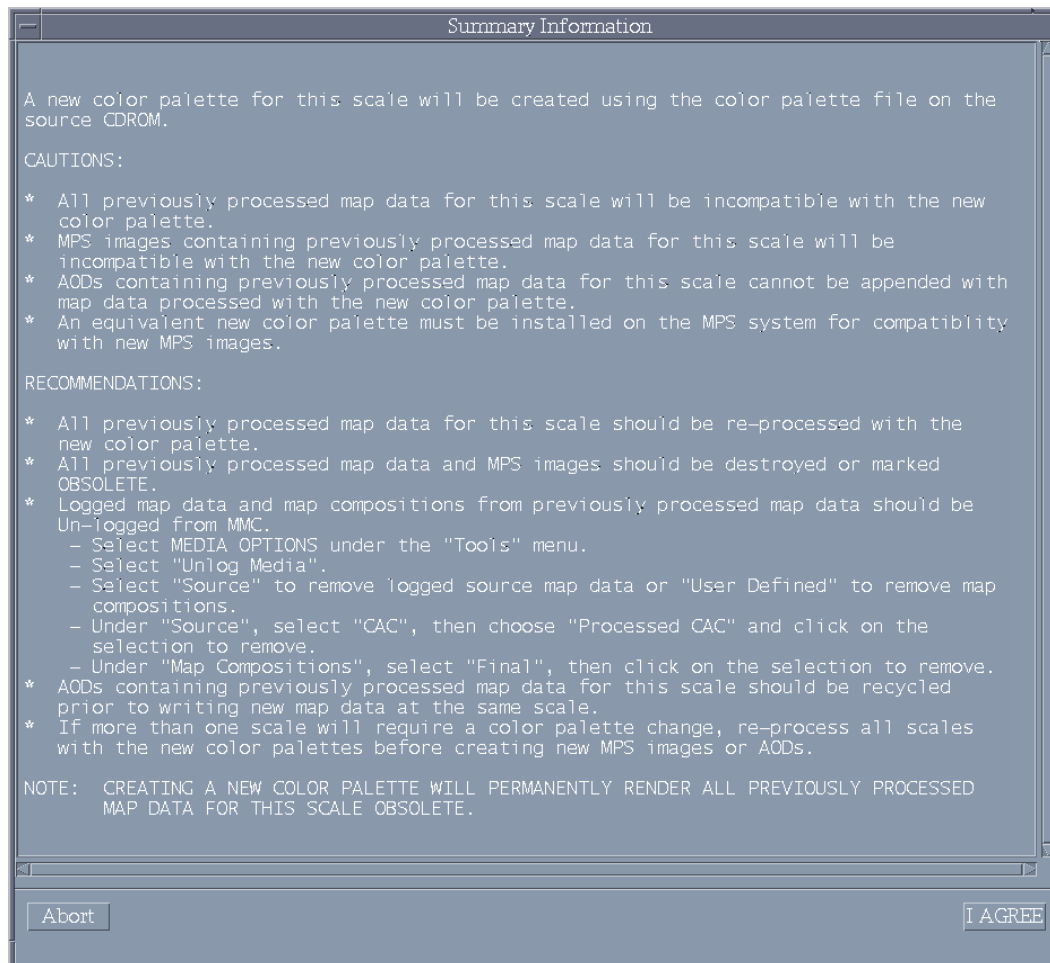

Fig. 20 – Color palette summary information window
- g. MMC displays a **Summary Information** window (Fig. 20) listing cautions and recommendations to consider before creating a new color palette. Use the scroll bar to read *all* recommendations. **Please read this information carefully!** Click on *I AGREE* to proceed.